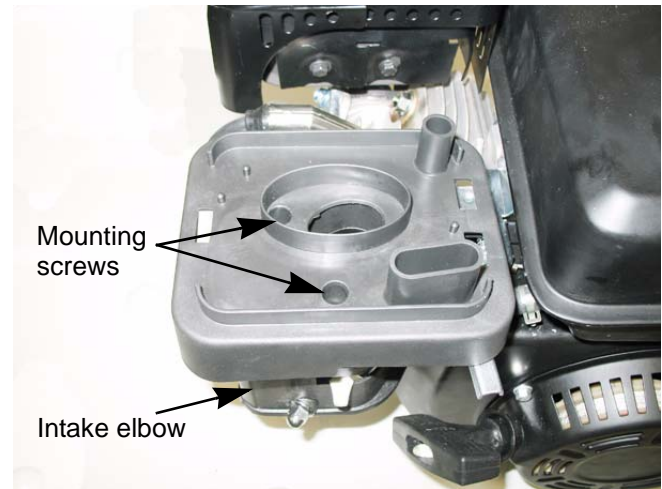

Figure 3.12
2. Remove the two screws that hold the air filter base to the intake elbow. See Figure 3.12.